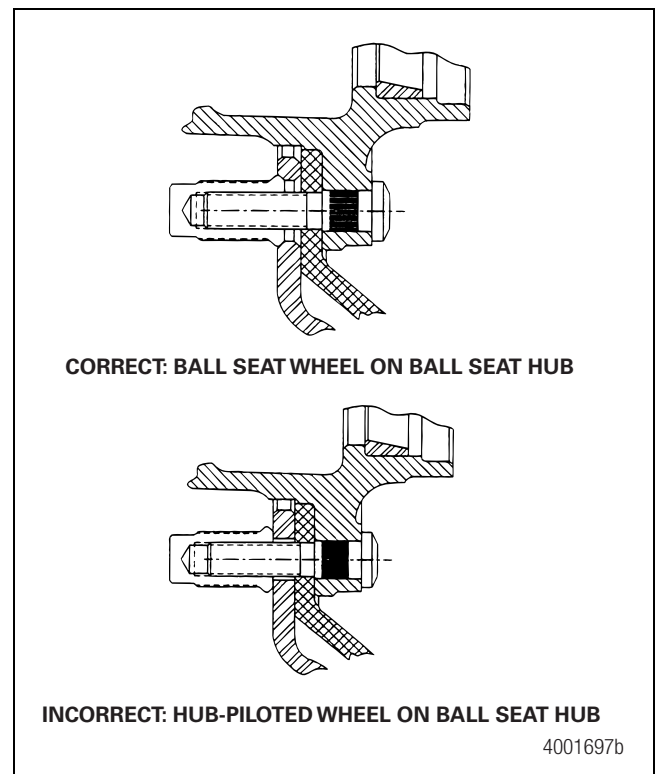
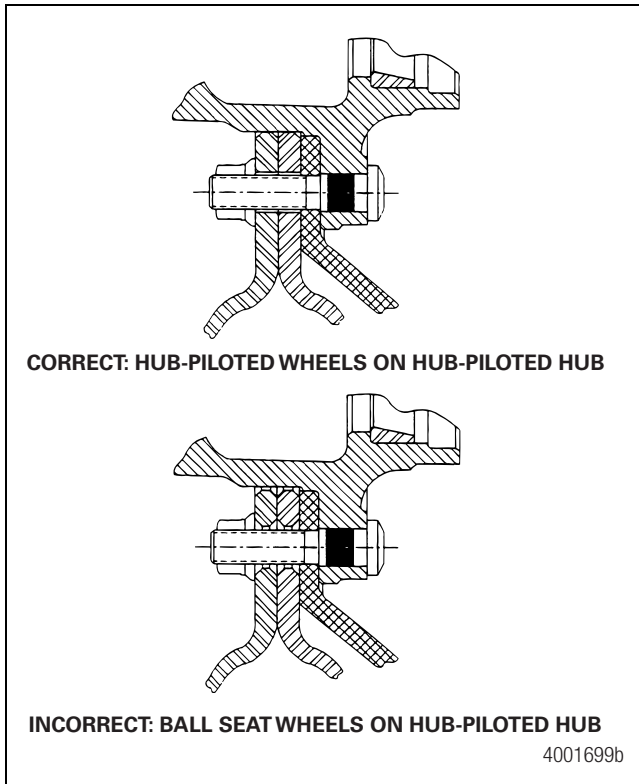

Figure 13.43
Figure 13.44
10. Ensure that the nut and wheel mate correctly. Ensure that you install the correct components onto the wheel systems. Figure 13.43 and Figure 13.44.